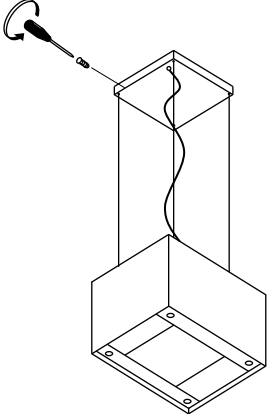

Fig 14
12. Screw the ceiling bracket cover back up (Fig 14).